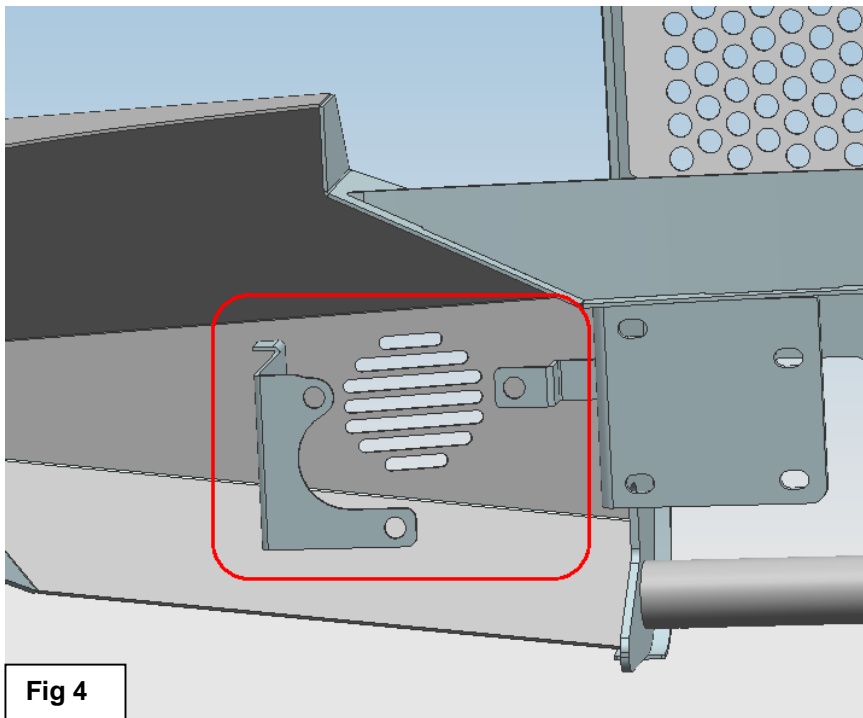

Fig 4
1. Remove the fog light from the vehicle. Use the OEM screws and nut plates to fasten the fog light brackets to the bumper (Fig 4).